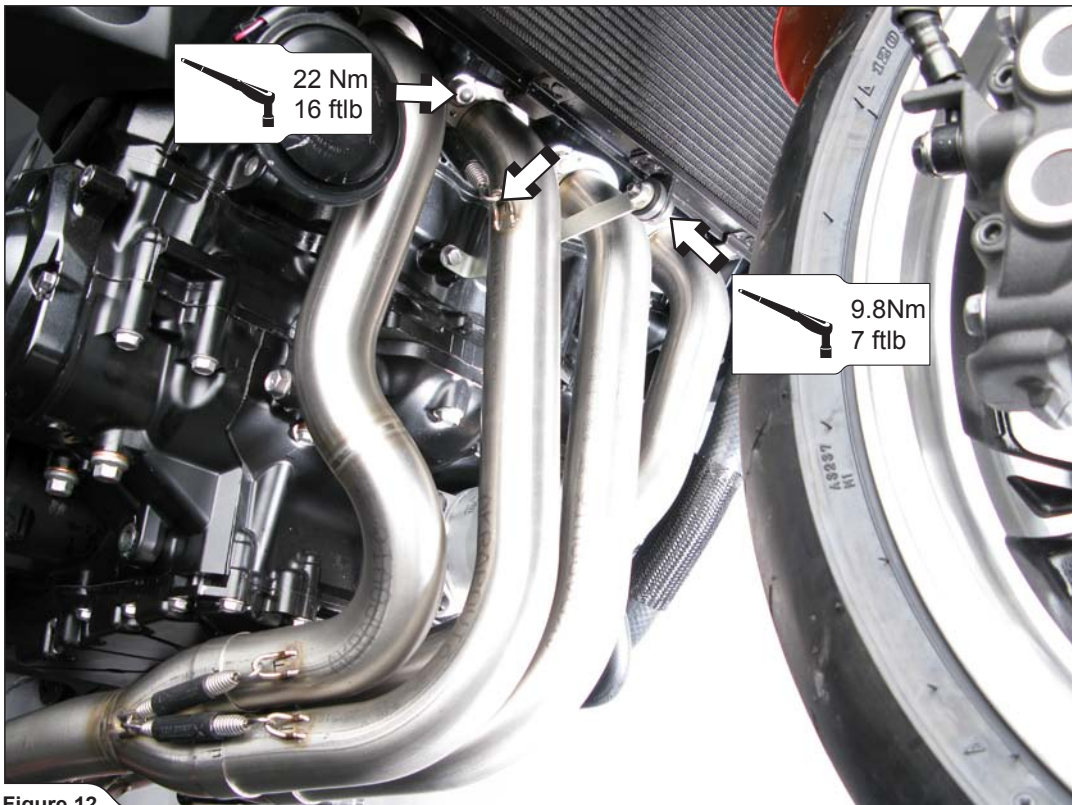

Figure 12
2. Insert the header tubes (assembled with collectors!) all the way into the sleeves, attach the springs and tighten the flanges and radiator bracket to a specified torques (**Figure 12**).